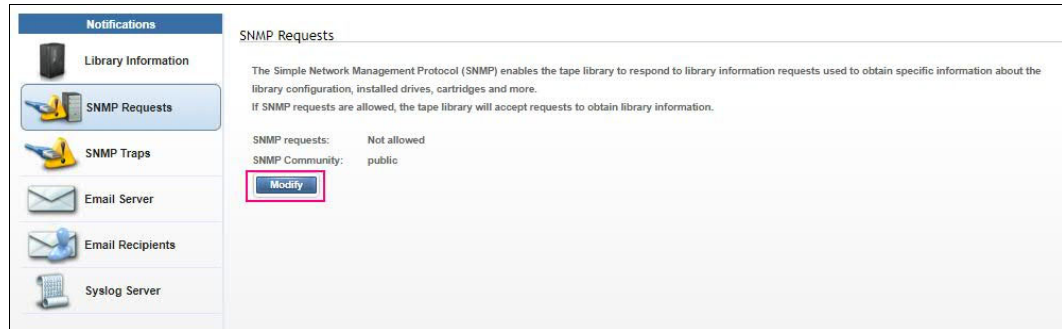
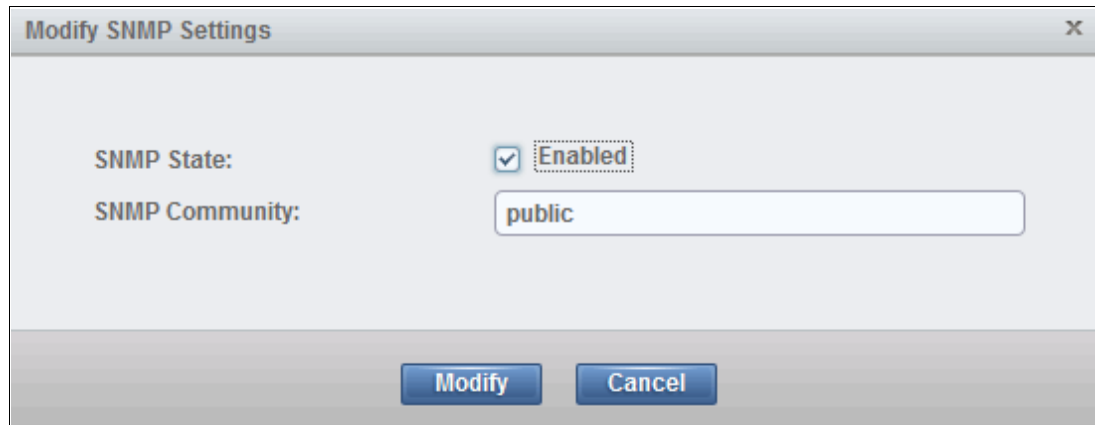

Figure 4-25 SNMP Requests
Figure 4-26 Modify SNMP Settings window
2. Under the Notifications menu, select **SNMP Requests** to display the current settings, as shown in Figure 4-25.
3. To change the setting, select **Modify**, as shown in Figure 4-25, which opens the Modify SNMP Settings window, as shown in Figure 4-26.
To view or change the community name that is associated with the TS4500 tape library, click **Modify** in the Modify SNMP Settings page (see Figure 4-26 on page 203).